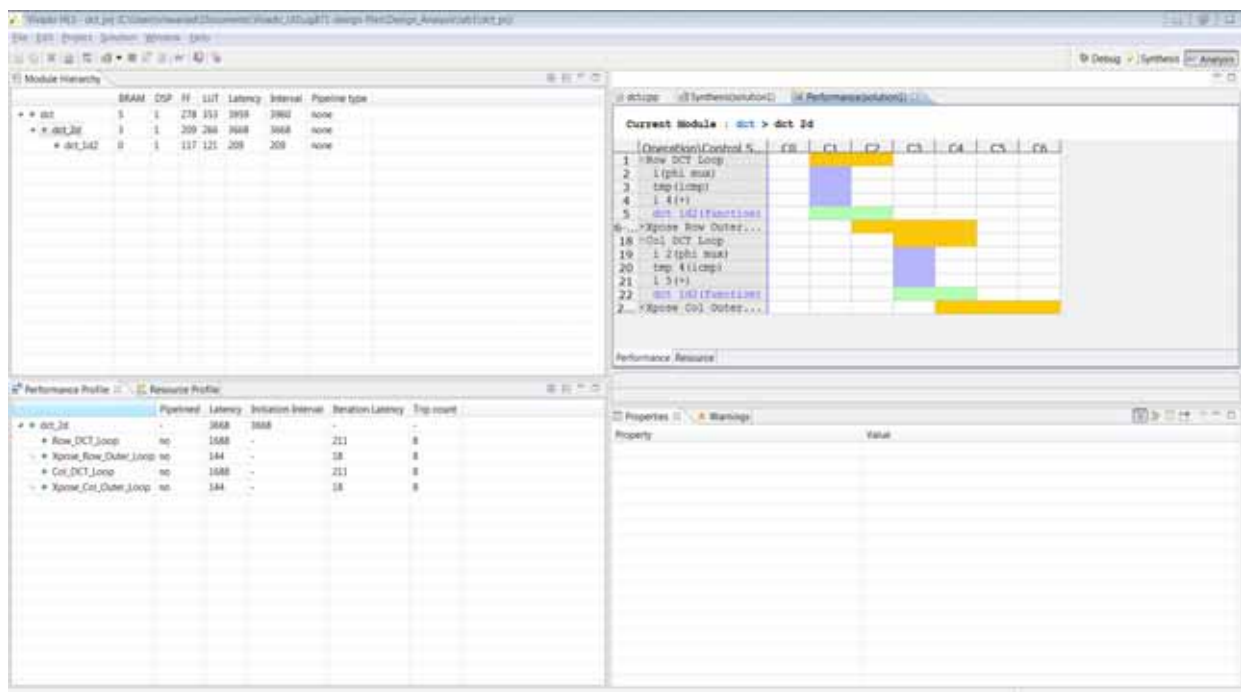

Figure 6-11: DCT_2D Performance View
6. In the Module Hierarchy pane, click the function **dct_2d** to navigate into the view for this function (Figure 6-11).
In the Performance Profile you can see that the latency of all the loops has been substantially reduced (Row_DCT_Loop and Col_DCT_loop have been approximately halved from the earlier report in Figure 6-11). However, the majority of the latency is still due to these two loops, each of which calls the `dct_1b` block.